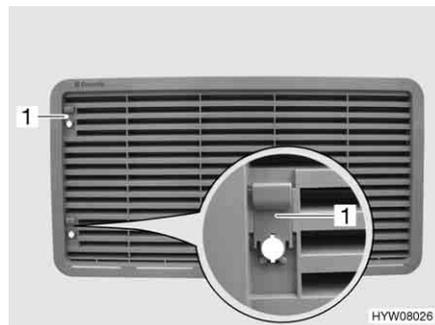

Fig. 219 Refrigerator ventilation grill (with sliding trap)
- Push sliding trap (Fig. 219,1) upward.